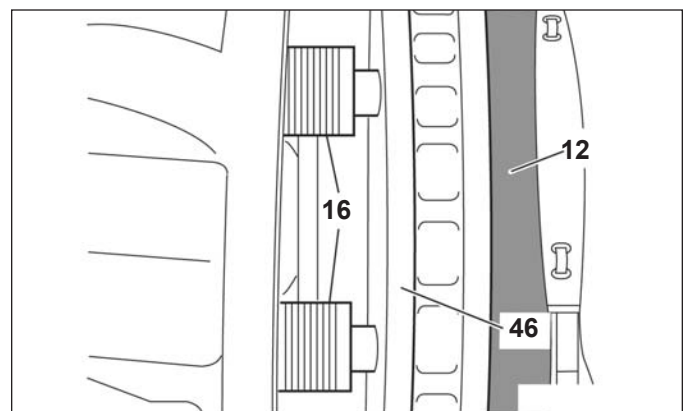

FIGURE 50 - USE OF A NEW BRAKE PAD AS A SPACER
5.5.9 Inspect the threaded tubes (16). See Figures 50 and 51. Extend the tubes, but by less than 1.75 in. (44.5 mm), by turning the shear adapter (61) clockwise. Inspect the threads for rust, corrosion, or damage etc. If there is evidence of damage to the threads; significant rust; or corrosion, the caliper/carrier assembly must be replaced.